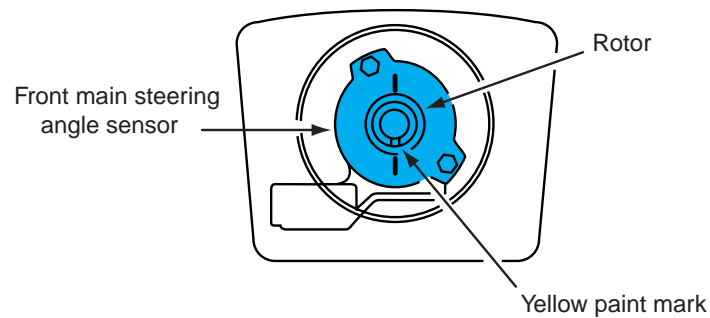

Figure 13-32 Yellow paint mark on the front main steering angle sensor indicating the electronically neutral sensor position.
4. Check to see if the yellow paint mark on the front main steering angle sensor is facing straight down (Figure 13-32). When this paint mark is facing down, the front main steering angle sensor is in the electronically neutral position.